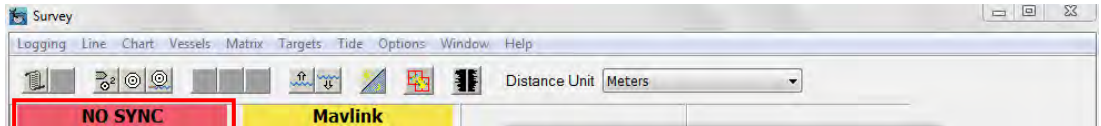

Figure 39: Position of the Start logging button on the HySWEEP survey window
- a. Wait until the "NO SYNC" alarm is gone (Figure 39)
- b. Press the start logging button to record data (Figure 39)